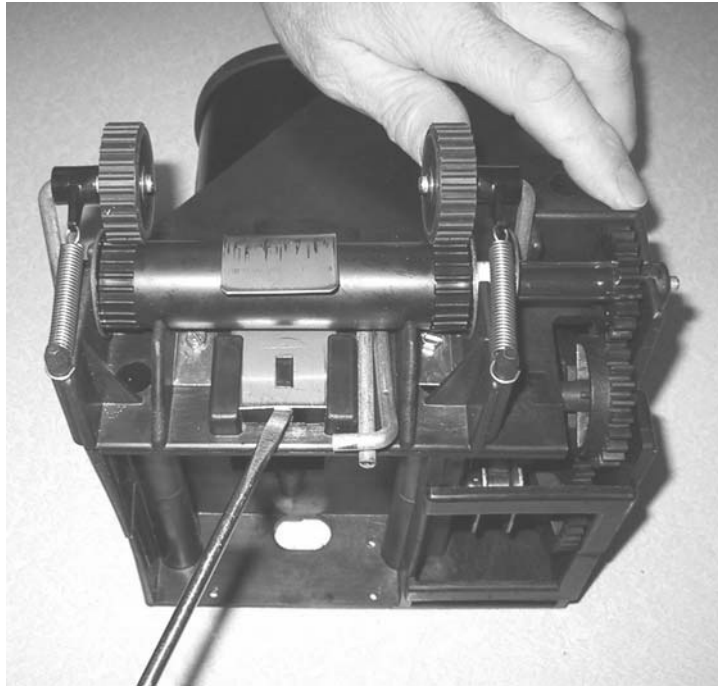

Figure 4
6. Turn the Brewer Assembly over and remove the paper guide by inserting a flat screwdriver into the release notch of the tab on the brewer. See Figure 4.